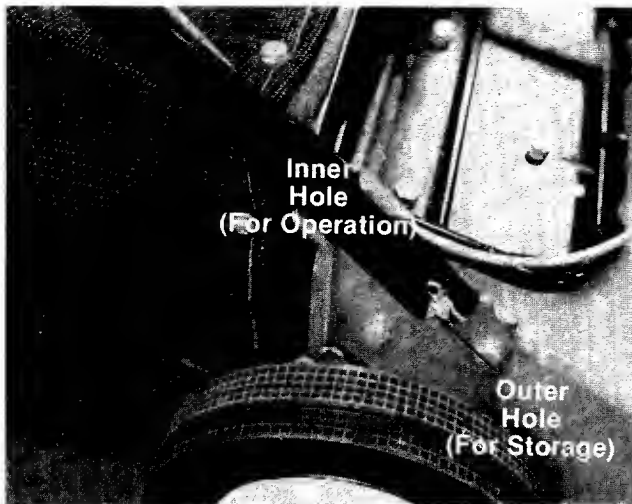

FIGURE 3.
There are two (2) holes in the handle mount brackets. Place hairpin cotter in the inner hole for operation. The outer hole is for storage. See figure 3.